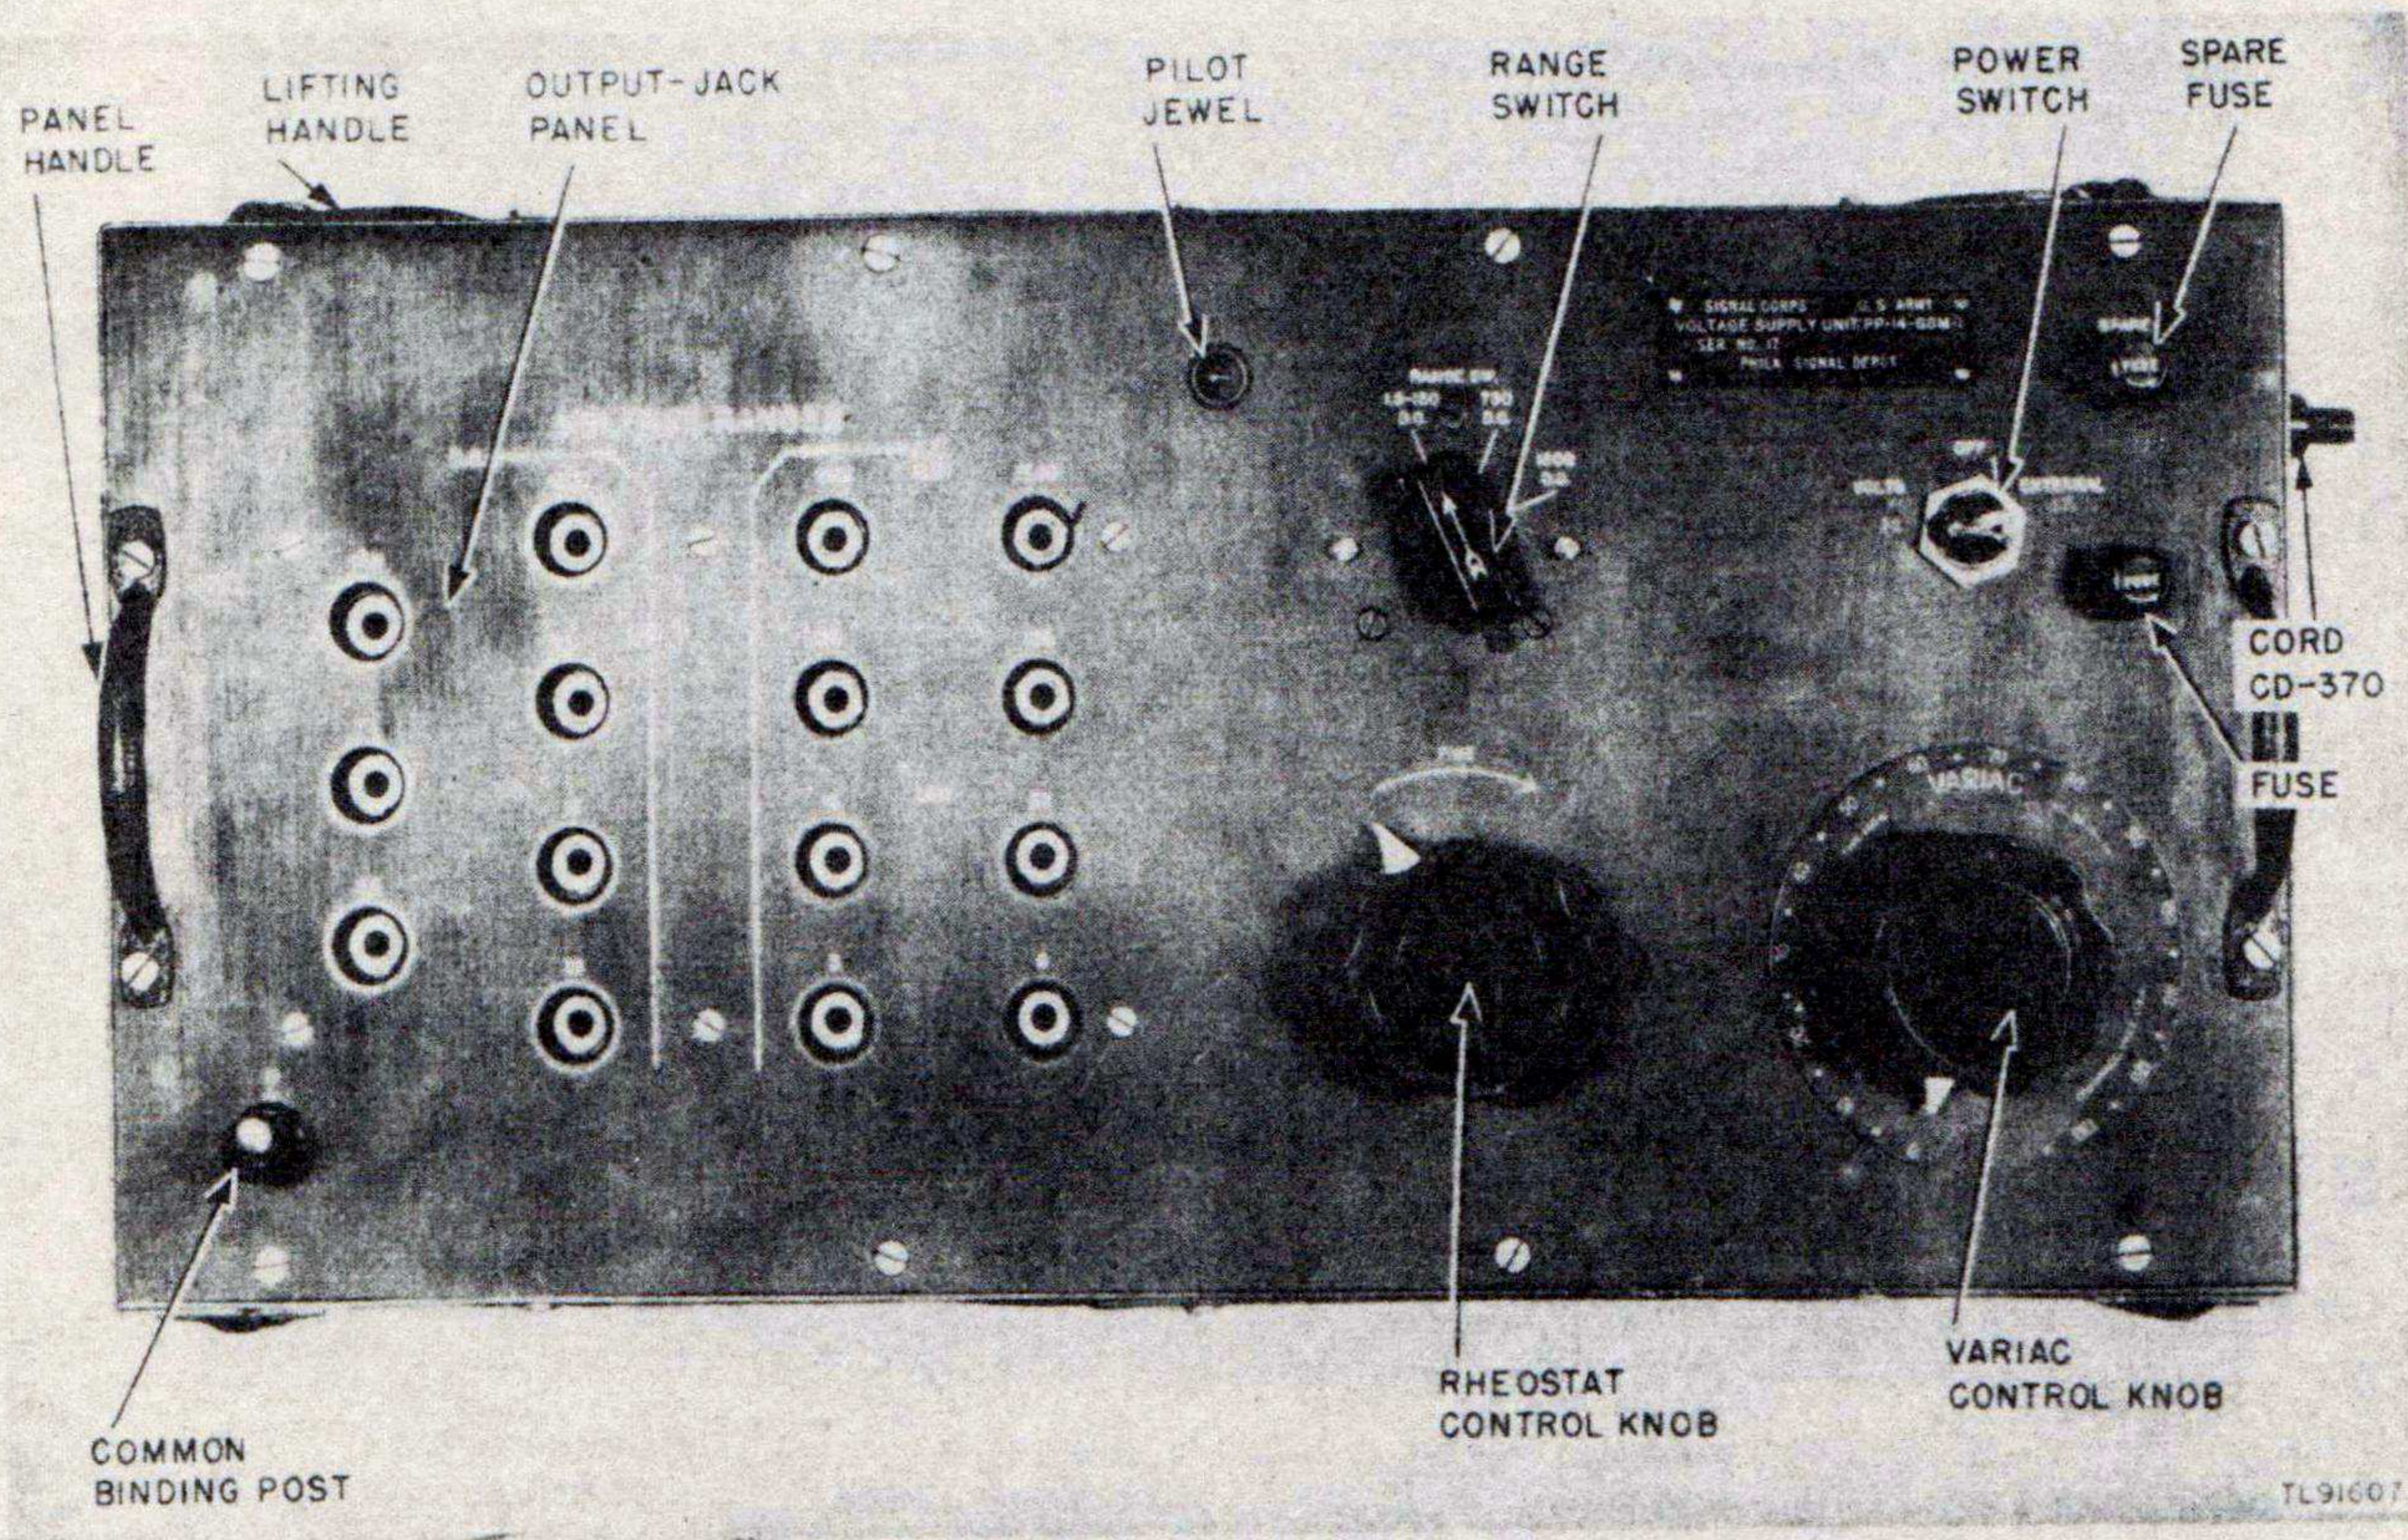

Figure 3. Voltage Supply Unit PP-14/GSM-1, front view.
4. VOLTAGE SUPPLY UNIT PP-14/GSM-1 (fig. 3).